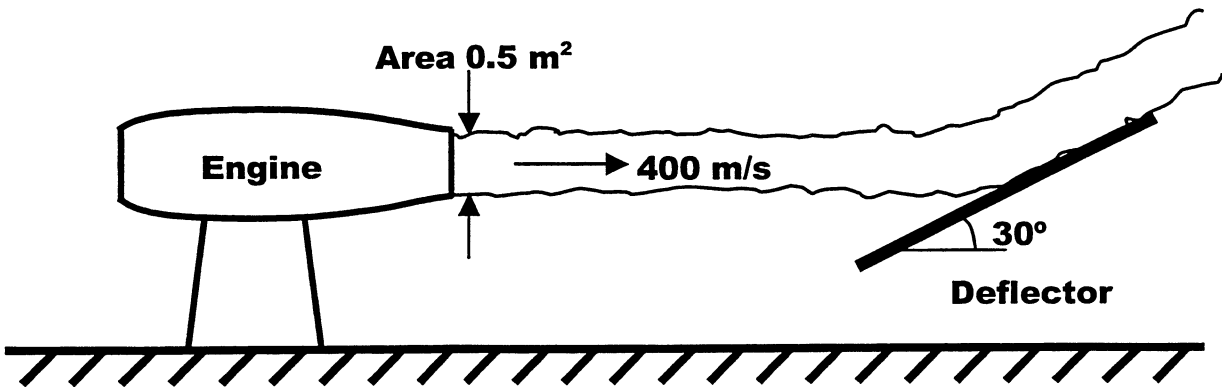

Fig. 2
2 The thrust produced by an aeroengine when stationary is measured by mounting it as shown in Fig. 2. The cross-sectional area of the exit jet is  $0.5 \text{ m}^2$ , the jet velocity is  $400 \text{ m/s}$  and the temperature is  $500 \text{ K}$ . The mass flow rate of fuel into the aeroengine may be ignored. The exhaust jet may be treated as having the same properties as air. Ambient pressure is  $1 \text{ bar}$  and the ambient temperature is  $288 \text{ K}$ .
- As shown in Fig. 2, the exhaust jet hits an exhaust deflector and is turned upwards through  $30^\circ$ . The deflector is sufficiently long so that the exhaust leaves the deflector as a parallel jet.